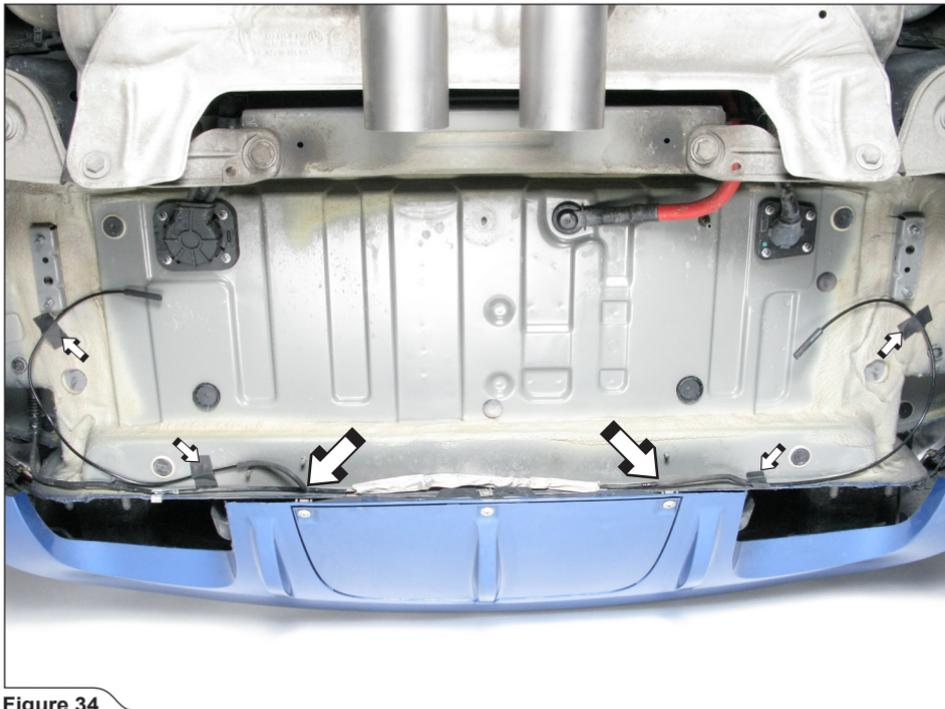

Figure 34
13. Connect the vacuum hoses from installation kit into the original vacuum actuator rubber hoses and direct them exactly as shown (**Figure 34**).